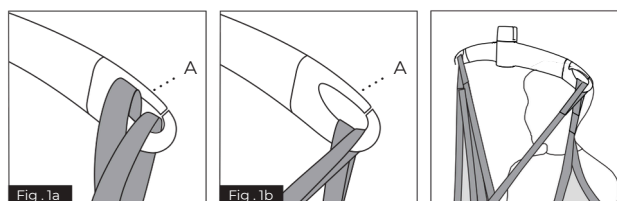

Fig. 1a Fig. 1b Placing the sling, look at page 34.
Be careful when attaching the lifting sling on the hooks. Check that the straps have been pulled completely through the rubber safety catch (A) and into place in the lifting hanger's hooks. When pressing the up button to lift the user, check again that all the straps remain correctly placed in the lifting hanger's hooks (fig. 1a and fig. 1b).